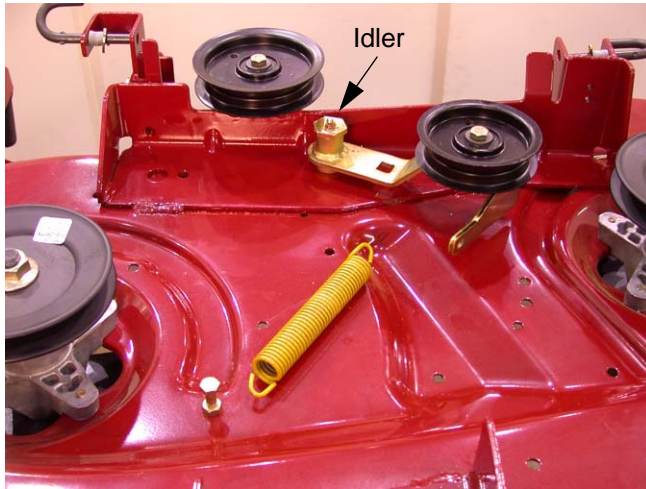

Figure 5.2
- 5.2. Remove the shoulder screw and hex lock nut securing the idler to the deck housing. See Figure 5.2.